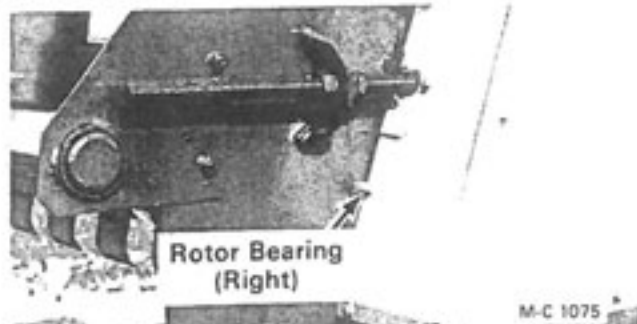

Figure 18 - Left Side also on Model 2206 & 2408
2. Rotor bearings. One fitting on each end of the rotor(s), see Figure 18 and 19.